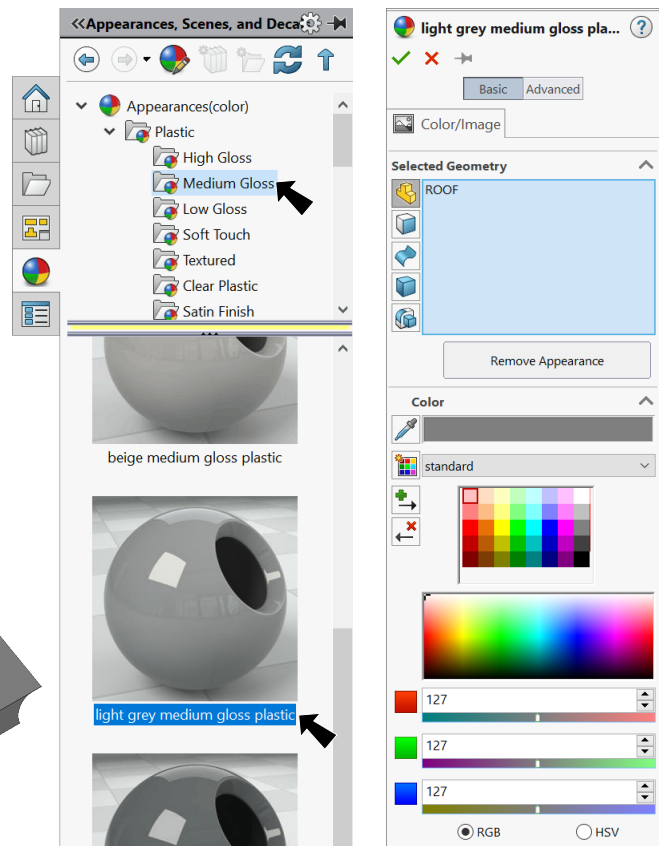

Fig. 62
Step 3. In the Appearances Task pane, expand **Plastic**, click **Medium Gloss** and in the lower pane select **light grey medium gloss plastic**, Fig. 62.